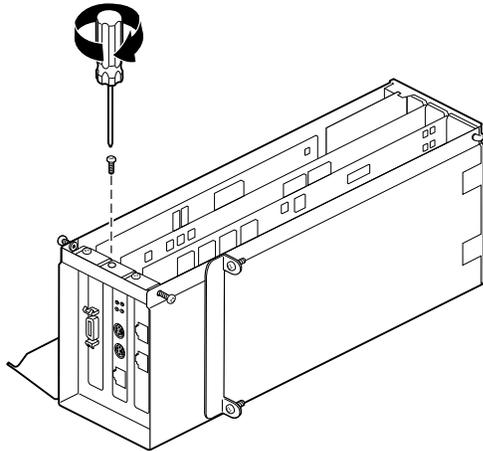

Figure 4-17 Inserting the Board Screw
5. Insert and tighten the screw that secures the PCI board to the PCI module, as shown in Figure 4-17.